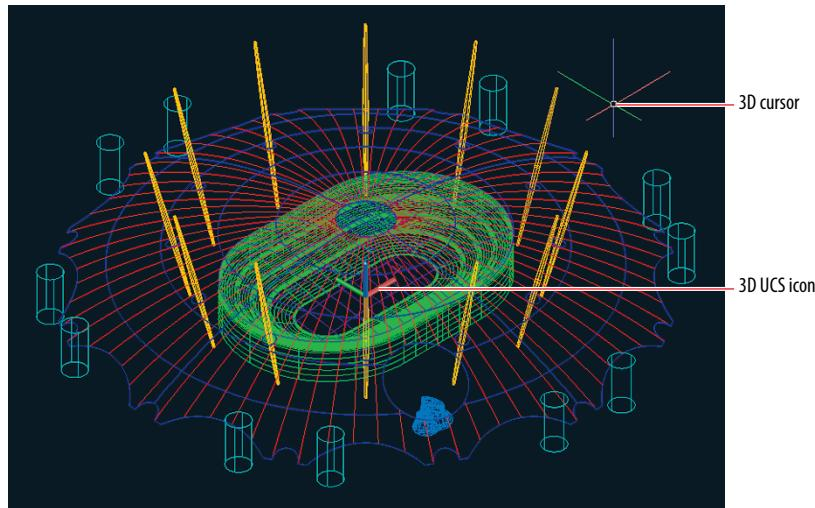

FIGURE 16.3 Wireframe visual style
3. Select the Wireframe icon. The UCS icon displays a colorful axis tripod in this 3D visual style (see Figure 16.3).